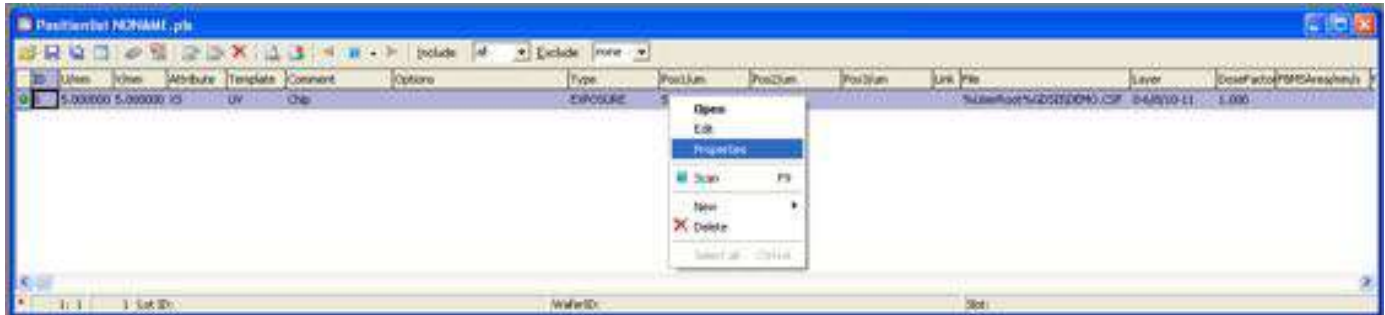

Figure 33 Positionlist setup for exposure
32. In the Raith software, click on **File >> New Positionlist**. A window will pop-up (Fig. 33) in the Raith software. Drag and drop your design (.csf) files from the **Design** menu (**GDSII Database** window) into the positionlist. You may input multiple designs in the positionlist. **Right click** anywhere on the inserted file information bar and click **Properties**. A window (Fig. 34) will pop-up. Insert values as shown.
34. To begin exposure, enable the Raith software, click **Scan >> All** in the top level menu. Alternatively, enable the positionlist, **right click** on the file information bar (Fig. 33) and click **Scan**. A window will pop-up which will show the exposure progress to the user. Once the exposure is complete, this window will disappear.